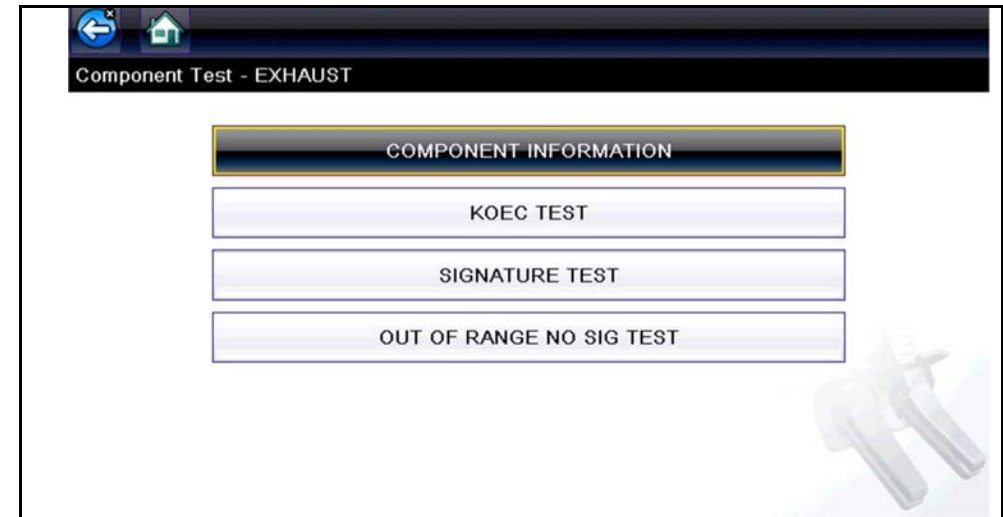

Figure 4-8 Component Tests Menu
2. Select **Component Information** from the Component Test menu (*Figure 4-8*).